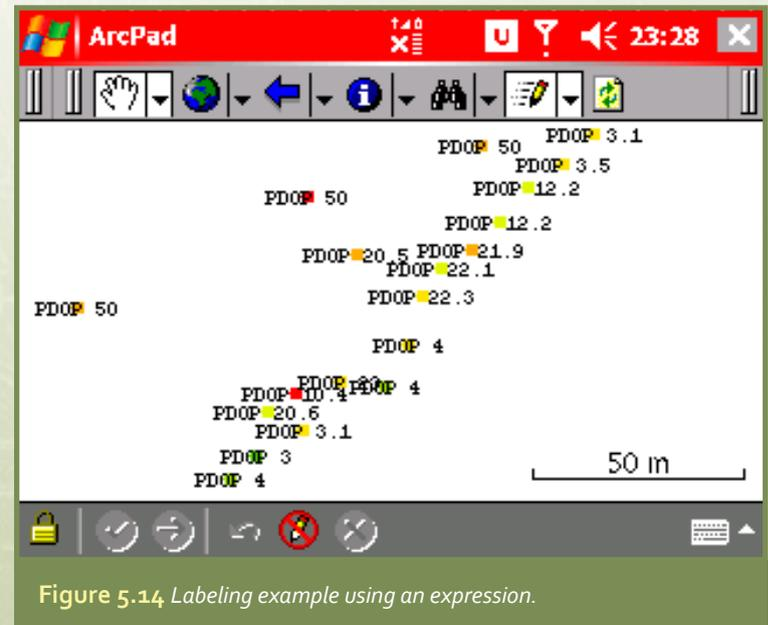

Figure 5.14 Labeling example using an expression.
- Labels using an expression (e.g., for the ArcPad tracklog, the expression "PDOP " & [PDOP] will place a label like PDOP=10.5 as in **figure 5.14**)